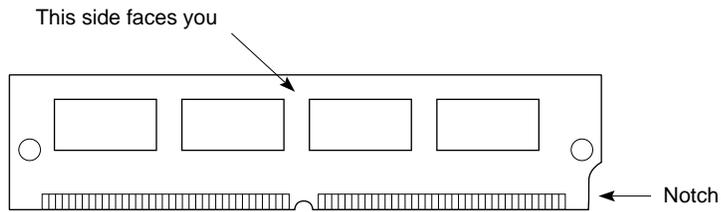

Figure 4-3 Orienting the SIMM
- Using both hands, grasp the top of the SIMM so the notch in the bottom corner of the SIMM is on your right, as shown in Figure 4-3. (This is the side closest to the CPU module).